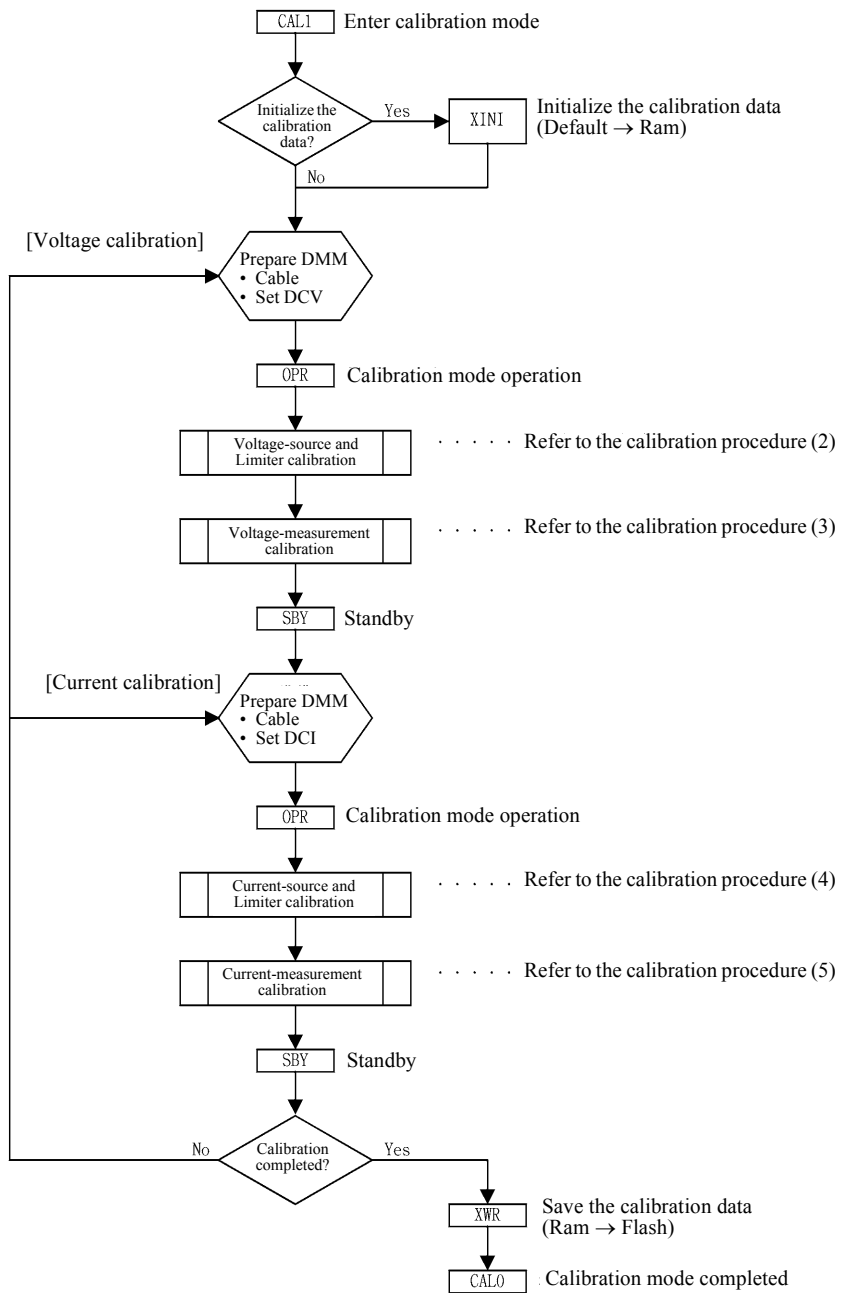
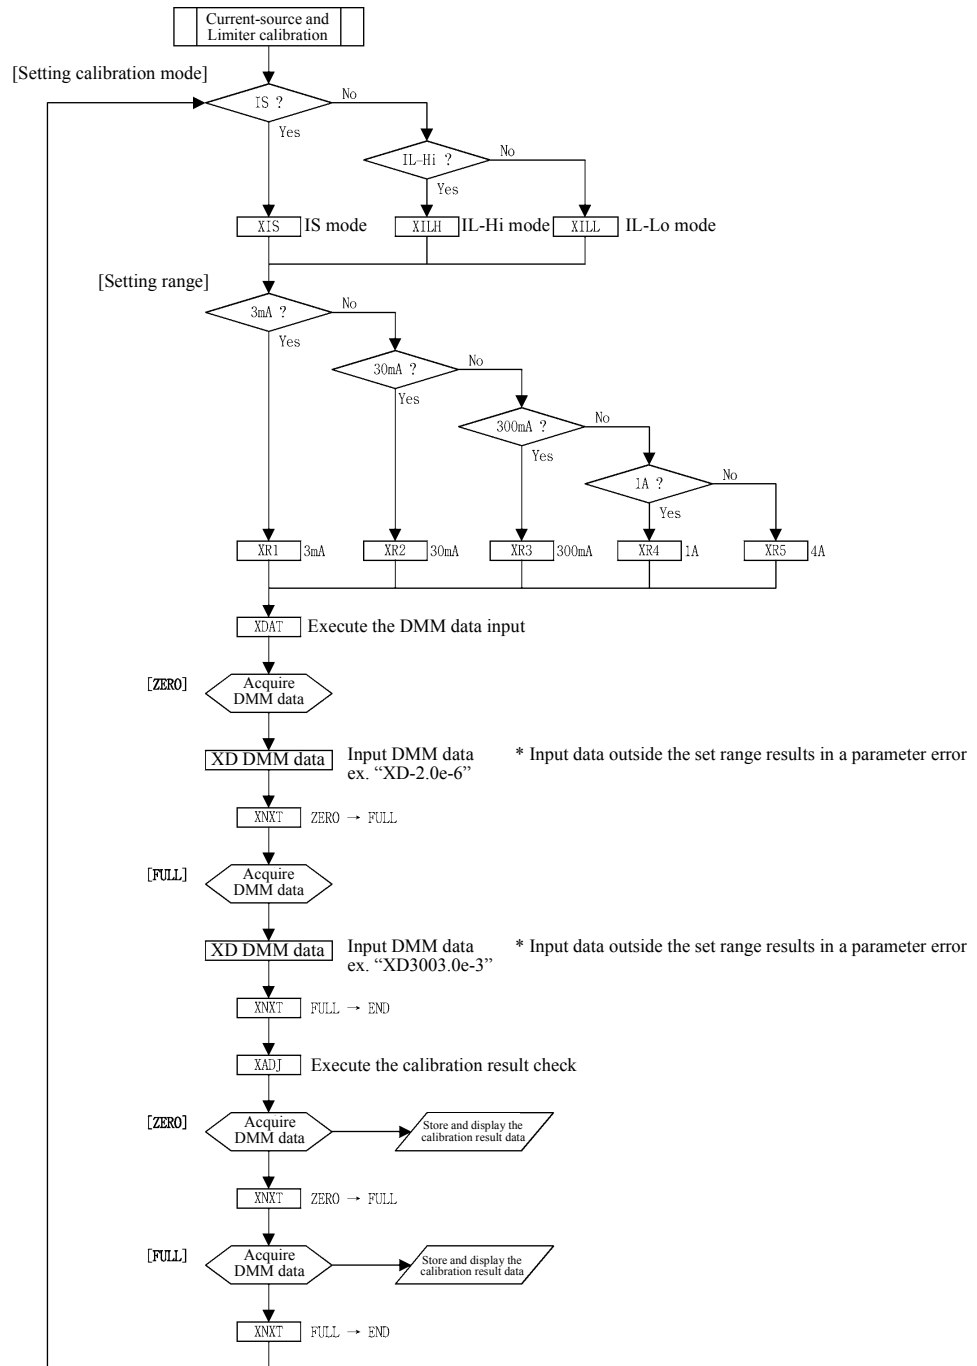

Figure 8-3 Calibration Procedure (1)
Figure 8-6 Calibration Procedure (4)
Figure 8-3 to Figure 8-6 show the calibration procedure.
This section describes the calibration procedure according to Figure 8-3, “Calibration Procedure (1).”